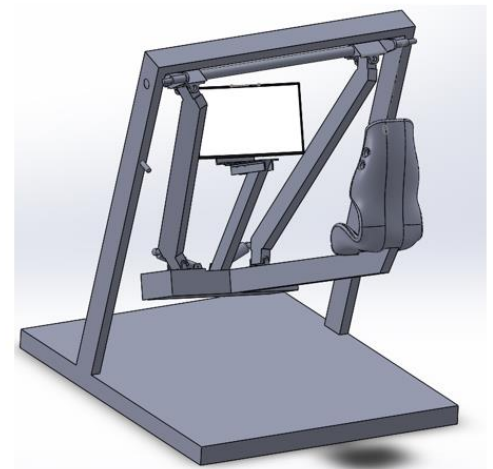

Figure 3: CAD model of the Flycycle in Solidworks
- 2) **Mechanical Overview and Designing:** Here the mechanical design of the Flycycle will be taught. The students will be tasked with assignments on force calculation for the force sensors. They will be also taught on how to model the Flycycle in Solidworks and how to make new components for the Flycycle. Figure 3 shows the already existing CAD model of the Flycycle.